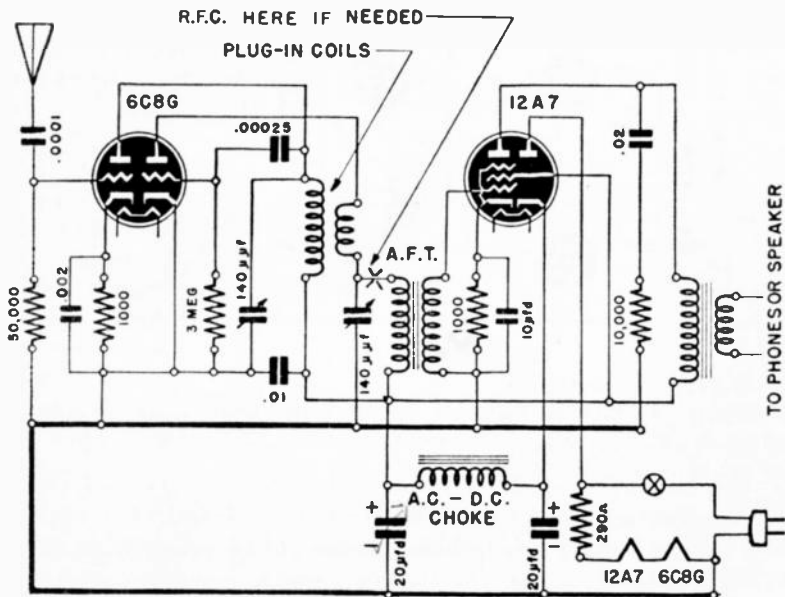

Fig. 108
A. Fig. 108 shows the diagram. As little or no gain can be expected from the untuned radio-frequency stage, a regenerative detector is used. Should the circuit oscillate with the 140- μf regeneration control condenser full out, insert an r.f. choke as indicated. The 10,000-ohm resistor and 0.02- μf condenser in the output circuit are for tone control purposes, and may be varied to suit circuit constants or listeners' tastes.